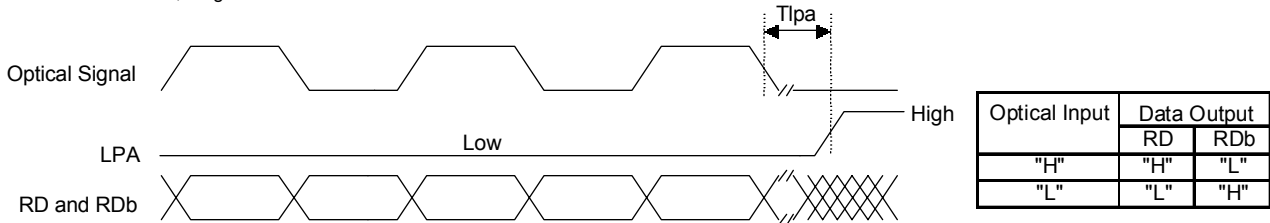

Figure 3 Output Timing Chart
1. BER = 10^-10 2. Refer to Figure 3